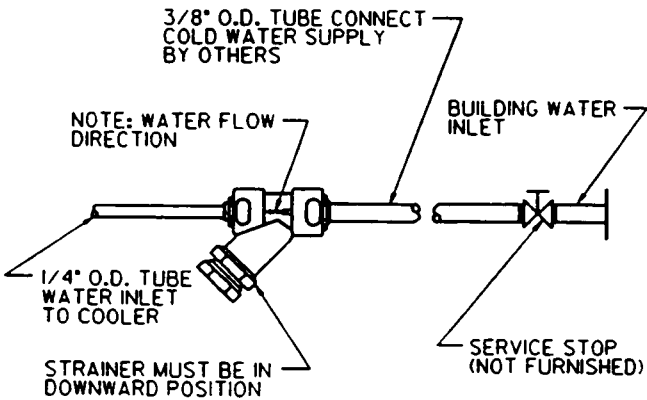

FIG. 8
6. Remove bottom access panel from fountain basin and save the screws. Install the fountain to the back panel and wall using four (4) 5/16" x 2" (51 mm) long lag bolts and washers (not provided) through holes in back panel. Tighten securely.
8. Make water supply connections from service stop to the fountain Y-strainer. Insert water line to positive stop approximately 3/4" (19 mm) on inlet side of Y-strainer. (See figure 8). Turn on water supply and check for leaks. Newly installed water supply line should be insulated after leak check is completed.
6. Remove bottom access panel from fountain basin and save the screws. Install the fountain to the back panel and wall using four (4) $\frac{5}{16}$ " x 2" (51 mm) long lag bolts and washers (not provided) through holes in back panel. Tighten securely.
8. Make water supply connections from service stop to the fountain Y-strainer. Insert water line to positive stop approximately $\frac{3}{4}$ " (19 mm) on inlet side of Y-strainer. (See figure 8). Turn on water supply and check for leaks. Newly installed water supply line should be insulated after leak check is completed.
6. Remove bottom access panels from fountain basin and save the screws. Install the fountains to the back panel and wall using four (4) 5/16" x 2" (51 mm) long lag bolts and washers (not provided) for each fountain through holes in back panel. Tighten securely.
8. Make water supply connections from service stop to the fountain Y-strainer. Insert water line to positive stop approximately 3/4" (19 mm) on inlet side of Y-strainer. (See figure 8). Turn on water supply and check for leaks. Newly installed water supply lines should be insulated after leak check is completed.